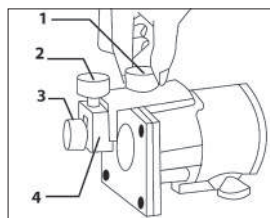

Fig. 15
Use the fixing nut (A) to assemble the bearing guide to the base plate. Loose the Fixing nut (B) to adjust the distance between cutting bits and the bearing guide seat. When achieve proper distance, screw the Fixing nut (B) tightly. (see Fig. 15)
1. Fixing nut (A)
3. Fixing nut (B)